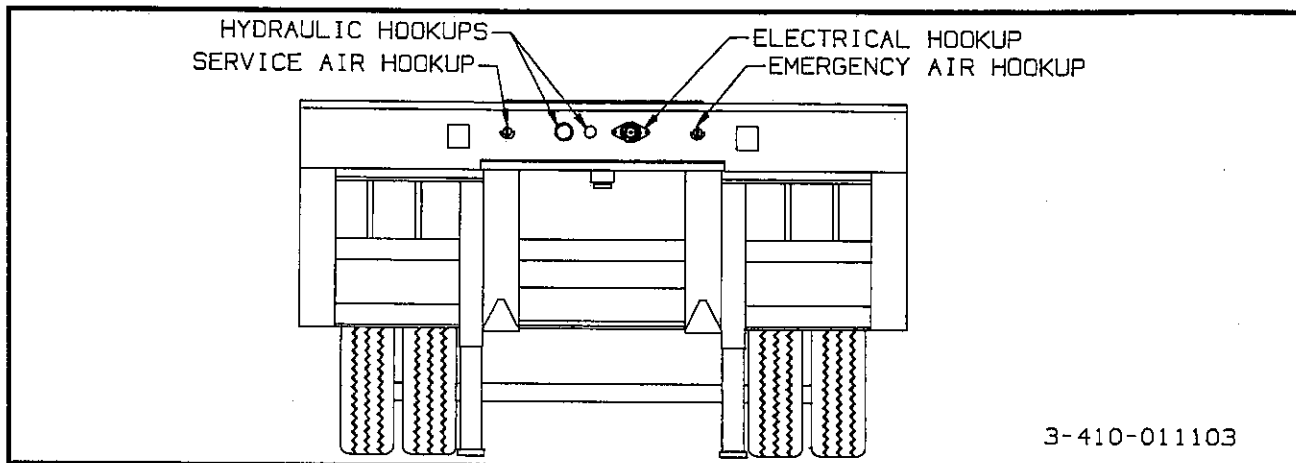

Figure 5-1 Service Hookups (Front View)
**5-1.3** Connect the service and emergency air hoses of the towing vehicle to their respective *glad-hand* on the front of the semitrailer; **red emergency line** to the gladhand with the "**EMERGENCY**" tag, and the **blue service line** to the gladhand with the "**SERVICE**" tag (see Figure 5-1). **Chock the trailer wheels** before activating the semitrailer air supply valve in the towing vehicle. **Set the trailer brakes.**
**5-3.1** Connect the towing vehicle 7-way electrical plug to the electrical receptacle on the front of the semitrailer (**see Figure 5-1**).